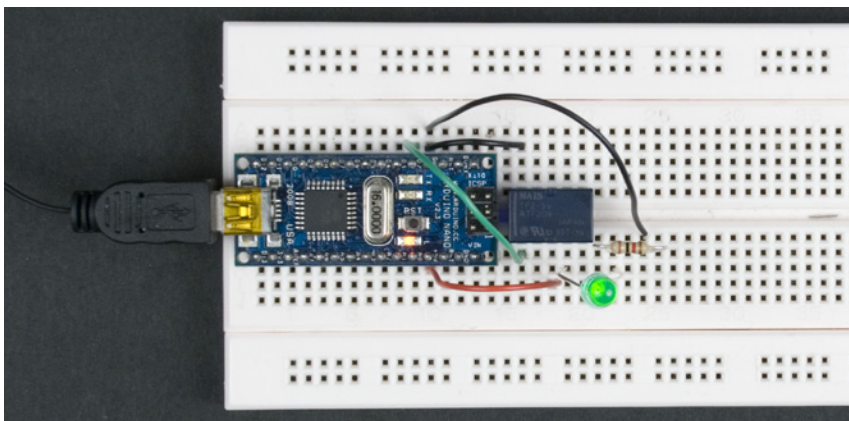
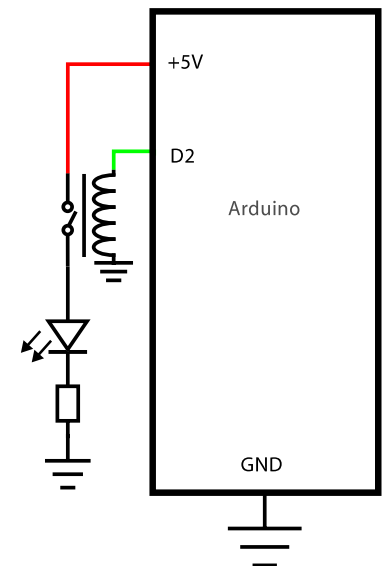

Figure 7-5. Connecting the LED with a relay
Figure 7-6. Circuit diagram with Arduino, relay, LED, and resistor
Figure 7-5 shows the Arduino Nano seated in a breadboard along with a relay and an LED. Figure 7-6 shows the circuit diagram.
- b. Connect the other end of the resistor to the Arduino GND pin. If necessary, use black jumper wire, as shown in Figure 7-5.